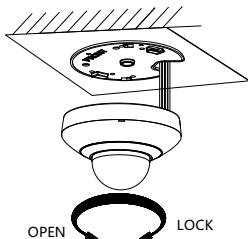

Figure 2-20 Fix the Camera
5. Align the camera with the installation plate, and rotate the camera clockwise to fix it, as shown in Figure 2-20.